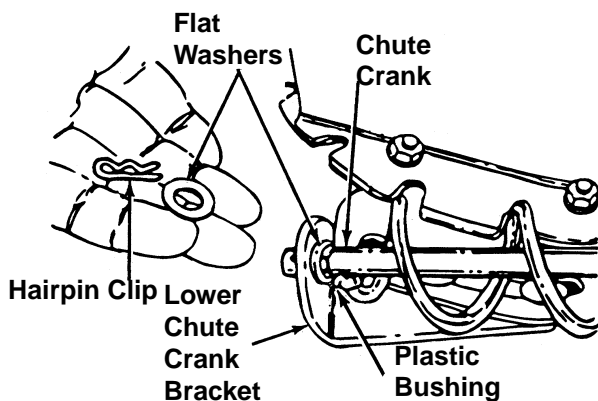

Figure 8
4. Place one flat washer on the end of the chute crank, then insert the end of the crank into the hole in the plastic bushing in the lower chute crank bracket. See figure 8. Place the other flat washer on the end of the chute crank, and insert hairpin clip into hole in the end of crank.